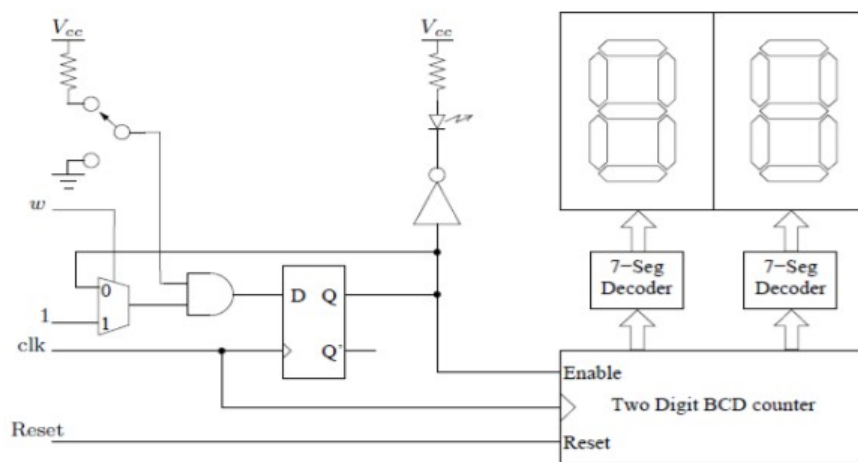

Figure 1: Circuit For Testing Your Reaction Speed
In this lab you will design a sequential circuit to test your reaction speed. The basic idea is that you hit a switch as soon as you see an LED light up. The amount of time you took to react will be displayed on two 7-segment displays. Figure 1 shows the overall circuit that you will design and build. You will use a clock (*clk*) to drive a two-digit counter; the *w* signal will be a pulse that lights the LED. The LED will turn off as soon as you hit the switch, and the signal *Reset* can be used to reset the counters, the display, and get the circuit ready to start over.
- 1.2. Now that you have a 100Hz clock, you can use that to count the time it takes you to press the switch after the LED goes on and display that on two 7-segment displays. To accomplish this you will need to write a code that will increment the least significant digit and every time it reaches the number 9 you reset it and increment the most significant digit. Write a Verilog code to implement the two digit BCD counter as shown in Figure 1.
- 1.3. Write a Verilog code to implement the entire circuit as shown in Figure 1. Use one of the LEDs on your board.